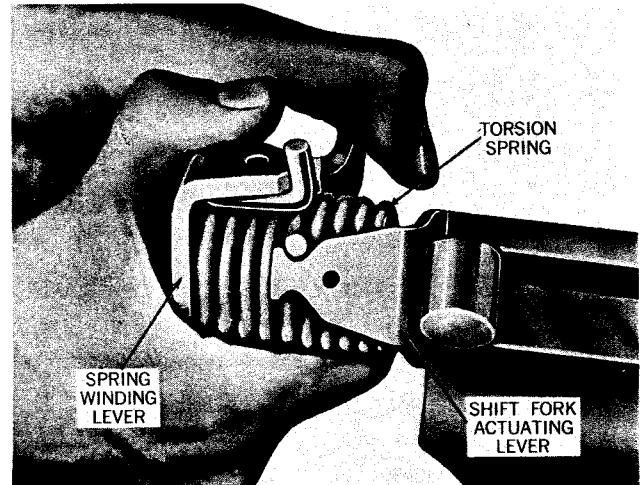

Fig. 180. Assembling Levers and Torsion Spring
1. Clamp end of lever shaft in vise jaws. Position shift fork actuating lever, torsion spring and spring winding lever on shaft as shown in figure 180. Grasp spring winding lever by hand, turn lever and push until end of torsion spring engages shift fork actuating lever.